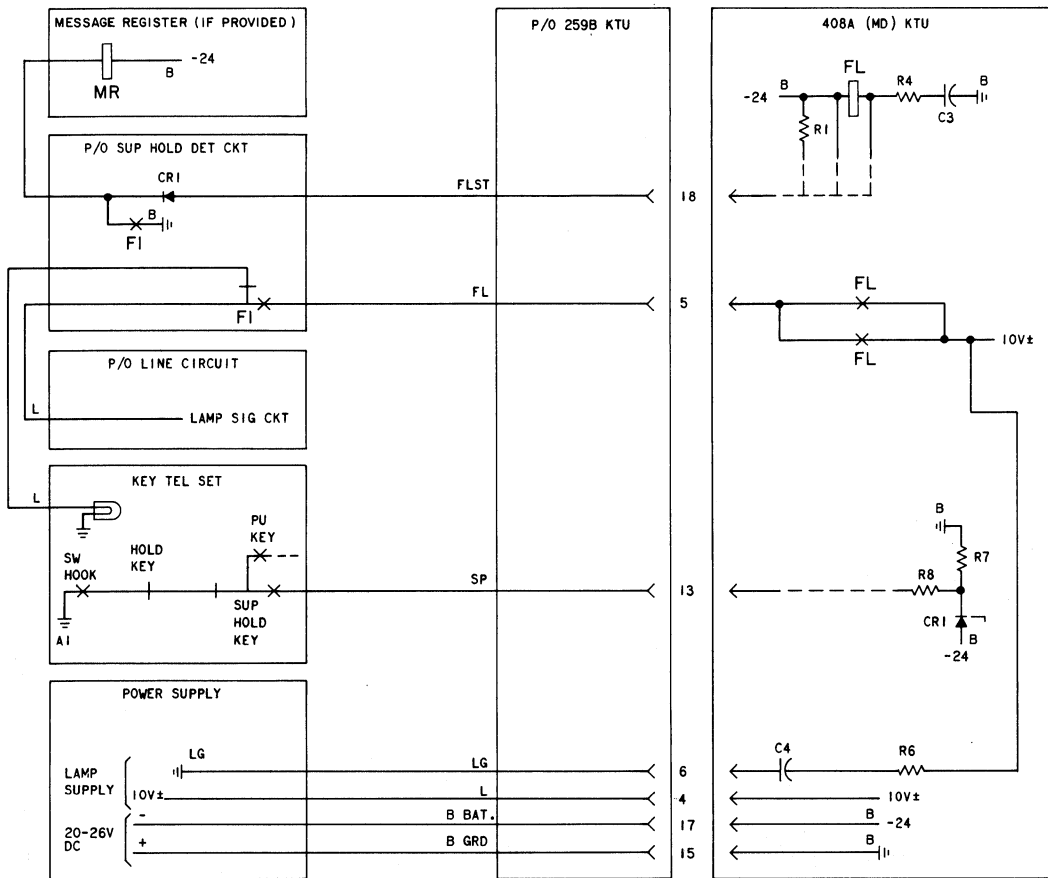

Fig. 5—Condensed Functional Schematic of 408A (MD) KTU (Flutter Generator Circuit)
2.03 The 408A (MD) KTU (Fig. 5) is a 4-inch, 18-contact unit which must be used with a 259B or 272A KTU. The 408A KTU has been replaced by the 430A KTU (see 2.09 for features) which conforms to standard contact lead configuration.